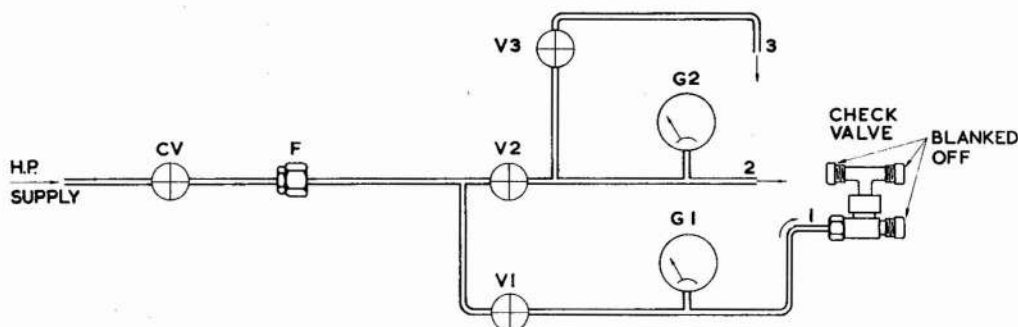

Fig. 1. Test rig, external leakage test, check valves 6D/2162, 6D/2167 and 6D/2264
- (2) Connect to pressure and leak test rig as shown in fig. 1.
- (3) Close V2 and V3. Open V1.
- (4) Adjust CV until G1 indicates 250 lb/in².
- (5) Immerse check valve in water. There is to be no leakage in one minute.
- (6) Exhaust the system by closing CV.
- (7) Remove the check valve, dry it using a jet of warm, dry air.